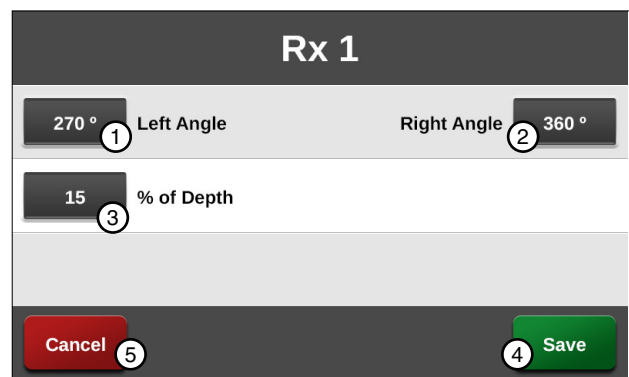

Figure 161-3 1. Left Angle
4. Push the **Edit Sectors** button to display the Edit Sectors screen. Refer to Figure 161-3.